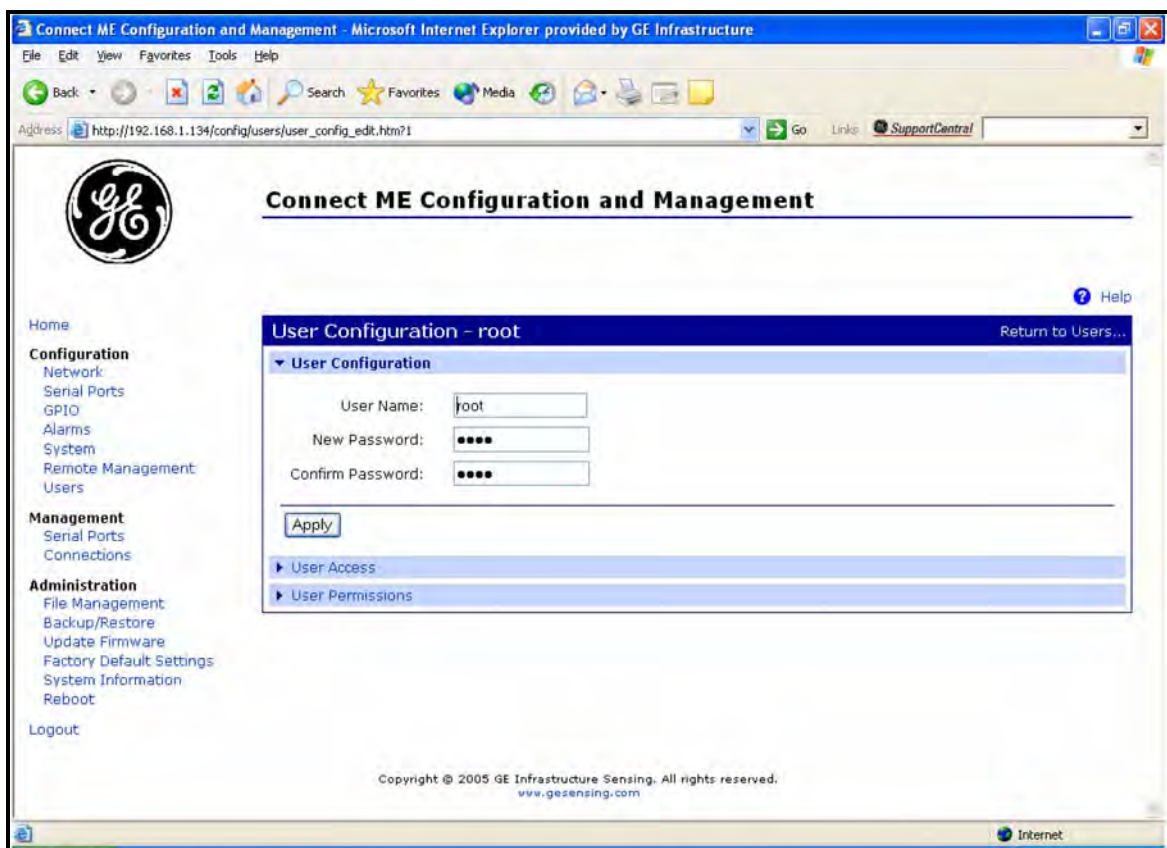

Figure 20: Changing the User Name and/or Password
5. Click on **New....** Figure 20 on page 35 appears.